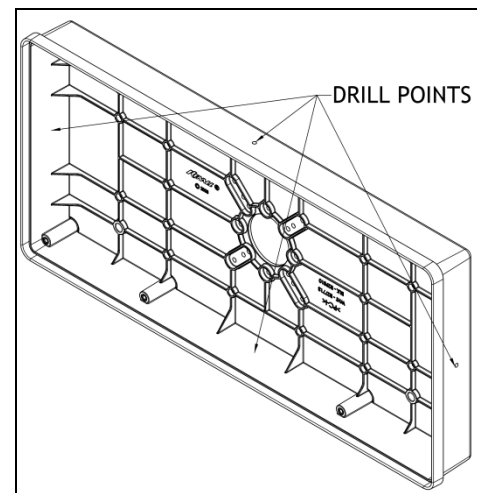

Figure 4
**Conduit Attachment** (Fig. 4) ½” trade size conduit may be used for power entry into top, bottom or sides of HOUSING. Locate suitable drill point and drill 7/8” dia. hole. Use proper conduit hub and locknut for wet or damp/dry location installation (not supplied).